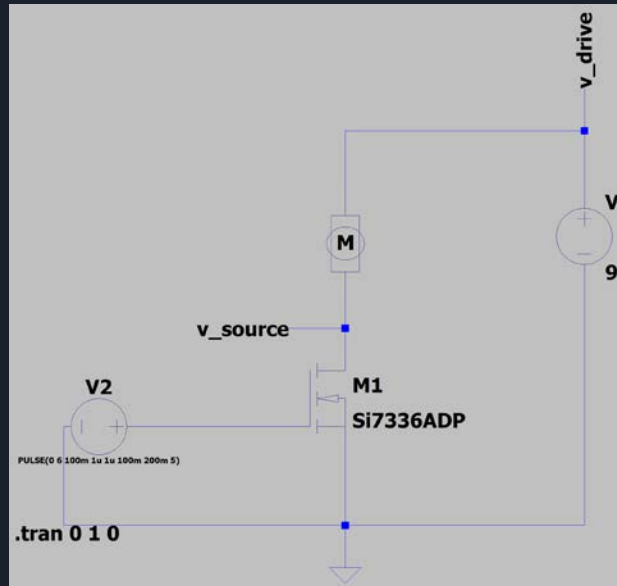

Figure 12.
- Open up a new schematic and build the circuit shown below in figure 12. Read ahead for some hints on building the circuit.